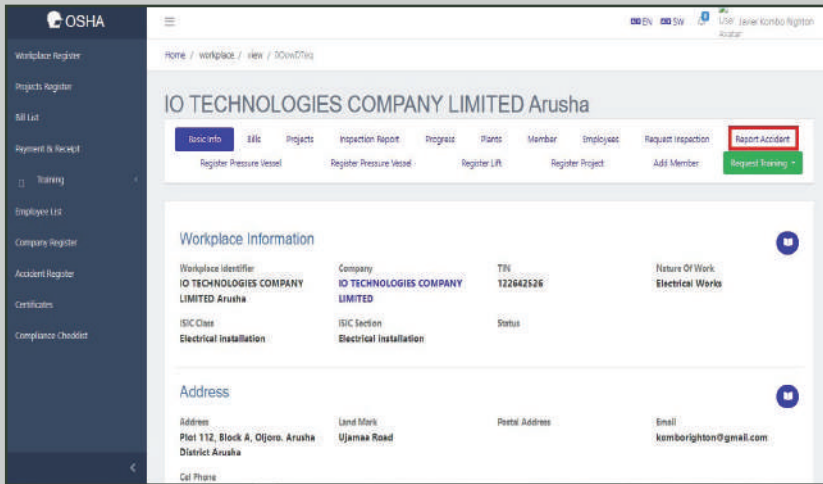

Figure 47: Accessing accident reporting page
- ii) System displays workplace details including option for Accident reporting. Click on Report Accident Tab to view accident reporting portal, as shown on Figure 47.